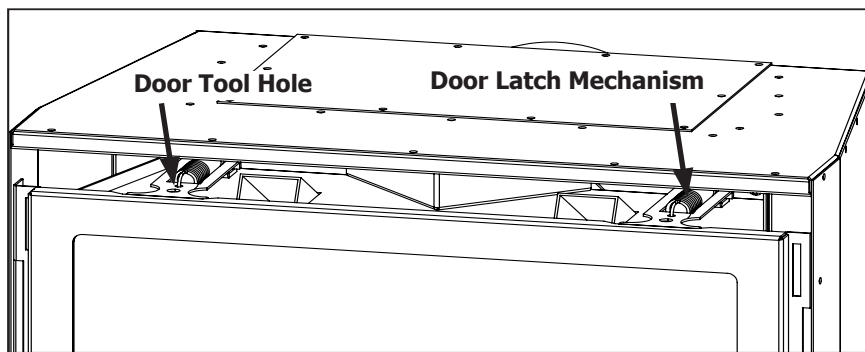
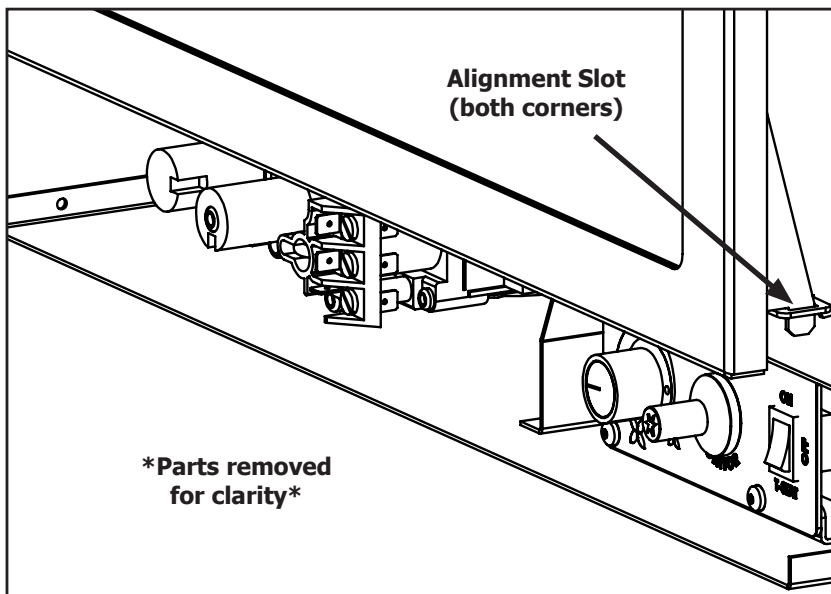

Figure 7. Top latches for glass door
Figure 8. Bottom Alignment Slots for glass door.
In order to install the glass media, and for regular cleaning, the glass door must be removed. There are two (2) door latch mechanisms on top the glass door as shown in Figure 7. Each latch has a hole at the front to use the door tool, supplied with the unit, to pull the mechanisms straight out and up. When the top latches are unhooked, lean the door forward and then lift it up out of the alignment slots at the bottom corners of the firebox, shown in Figure 8.